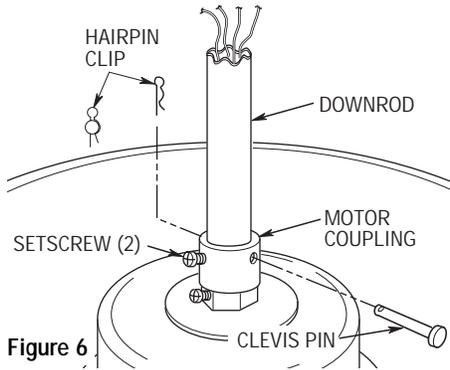

Figure 6
- 9. Unscrew the two upper setscrews (Figure 6) until they clear the inside of the motor coupling. Then separate, untwist and unkink the four 80" motor leads. Route the motor lead wires through the downrod. Align the clevis pin holes in the downrod with the holes in the motor coupling. Install the clevis pin and secure with the hairpin clip (Figure 6). The clevis pin must go through the holes in the motor coupling and the holes in the downrod. Be sure to push the straight leg of the hairpin clip through the hole near the end of the clevis pin until the curved portion of the hairpin clip snaps around the clevis pin. The hairpin clip must be properly installed to prevent the clevis pin from working loose. Pull up on the downrod to make sure the clevis pin is properly installed.
- 10. Tighten the setscrews (Figure 6) securely while pulling up on the downrod.